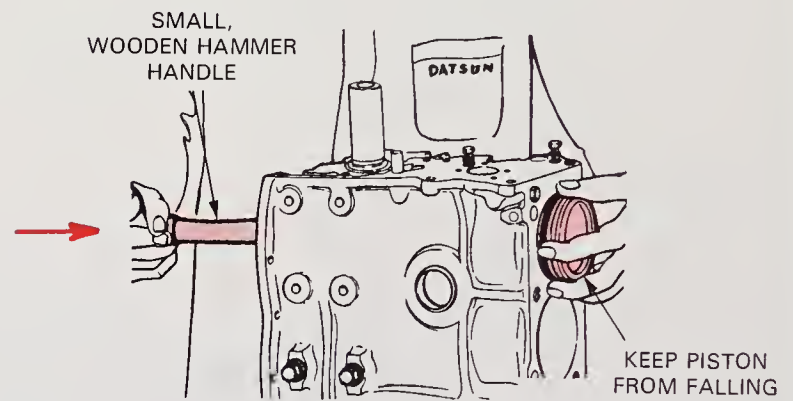

Fig. 46-14. To remove pistons, unbolt rod cap. Use a wooden hammer handle to carefully tap assembly out of block. (Nissan)
5. Unbolt one of the connecting rod caps. Then, use a wooden hammer handle to tap the piston and rod out of the cylinder. Refer to Fig. 46-14.